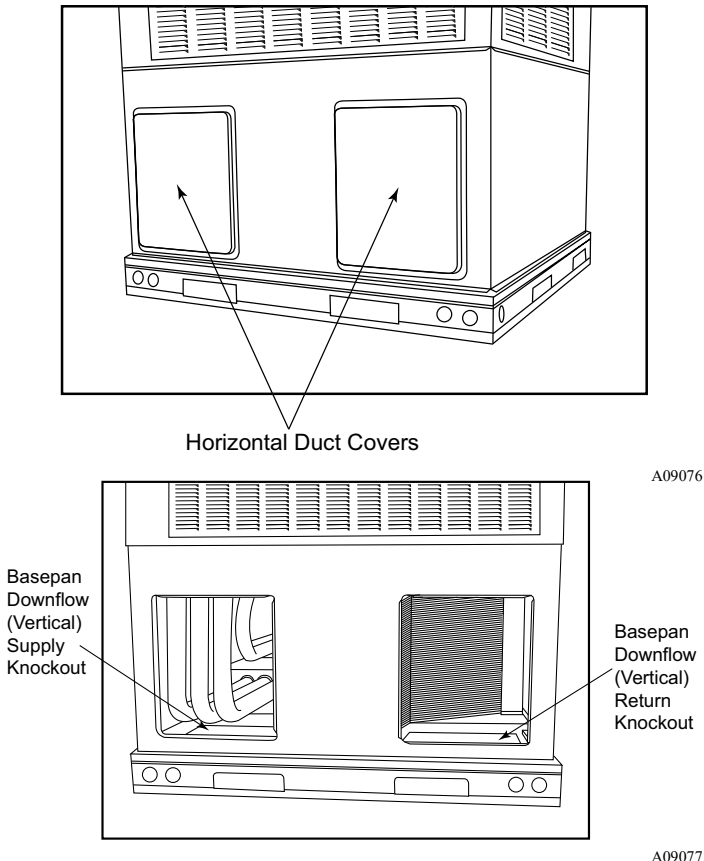

Fig. 9 – Supply and Return Duct Opening
The flue assembly is secured and shipped in the return air duct. Remove duct cover to locate the assembly (See Fig. 9).
2. Remove flue hood from shipping location (inside the return section of the blower compartment-see Fig. 9). Remove the return duct cover to locate the flue hood. Place flue hood assembly over flue panel. Orient screw holes in flue hood with holes in the flue panel.
- Remove horizontal (metal) duct covers to access vertical (downflow) discharge duct knockouts in unit basepan. (See Fig. 9.)